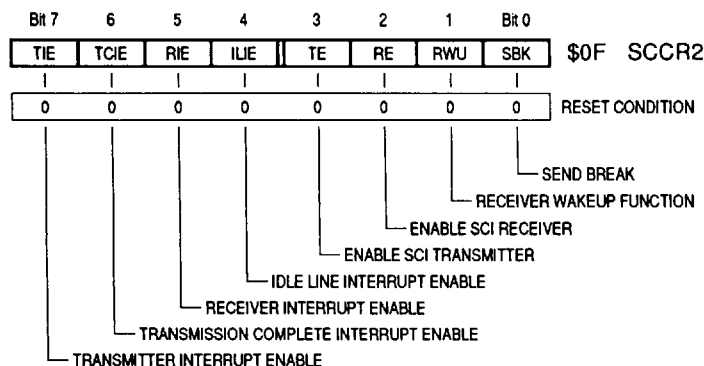

Figure 3-20. Serial Communications Control Register Two
3.6.3.3 SERIAL COMMUNICATIONS CONTROL REGISTER TWO (SCCR2). The serial communications control register two (SCCR2) shown in Figure 3-20 is the main control register for the SCI subsystem. This register can enable/disable the transmitter or receiver, enable the system interrupts, and provide the wakeup enable bit and a "send break code" bit. The TIE, TCIE, RIE, and ILIE bits are local interrupt enable controls, which determine whether SCI status flags will be polled or generate hardware interrupt requests.